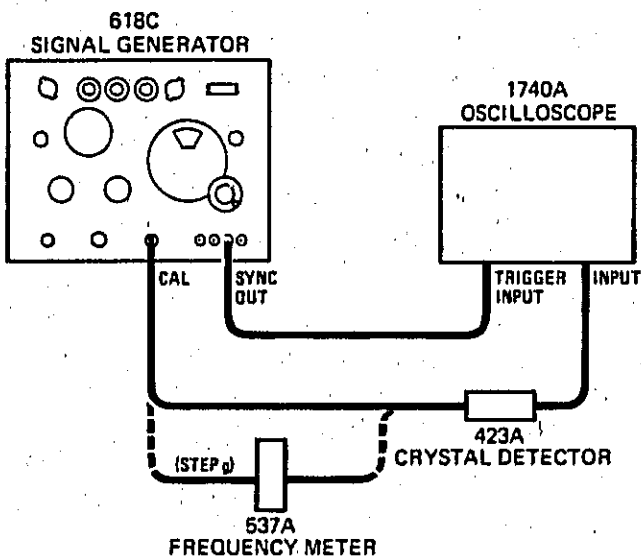
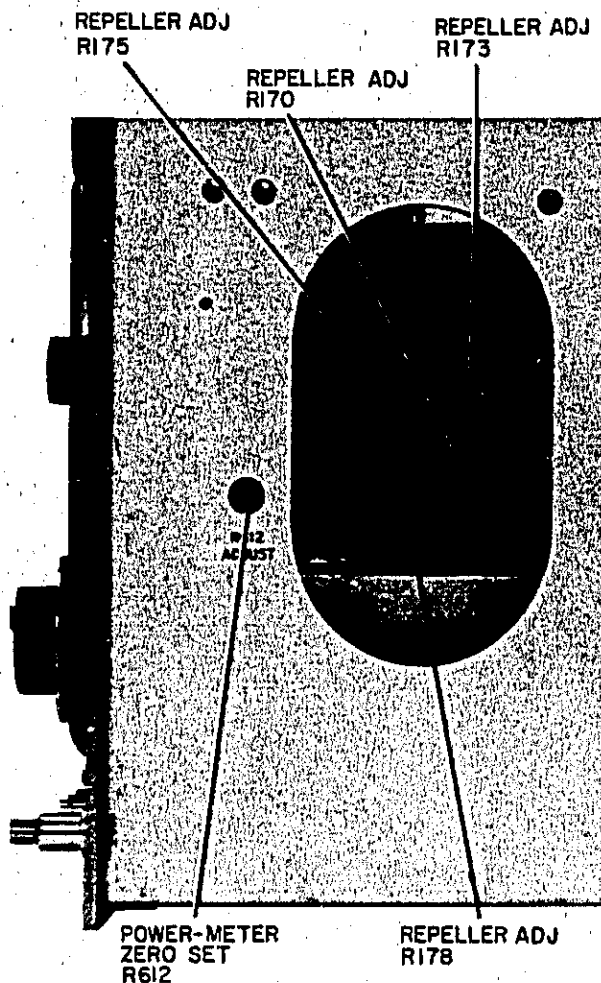
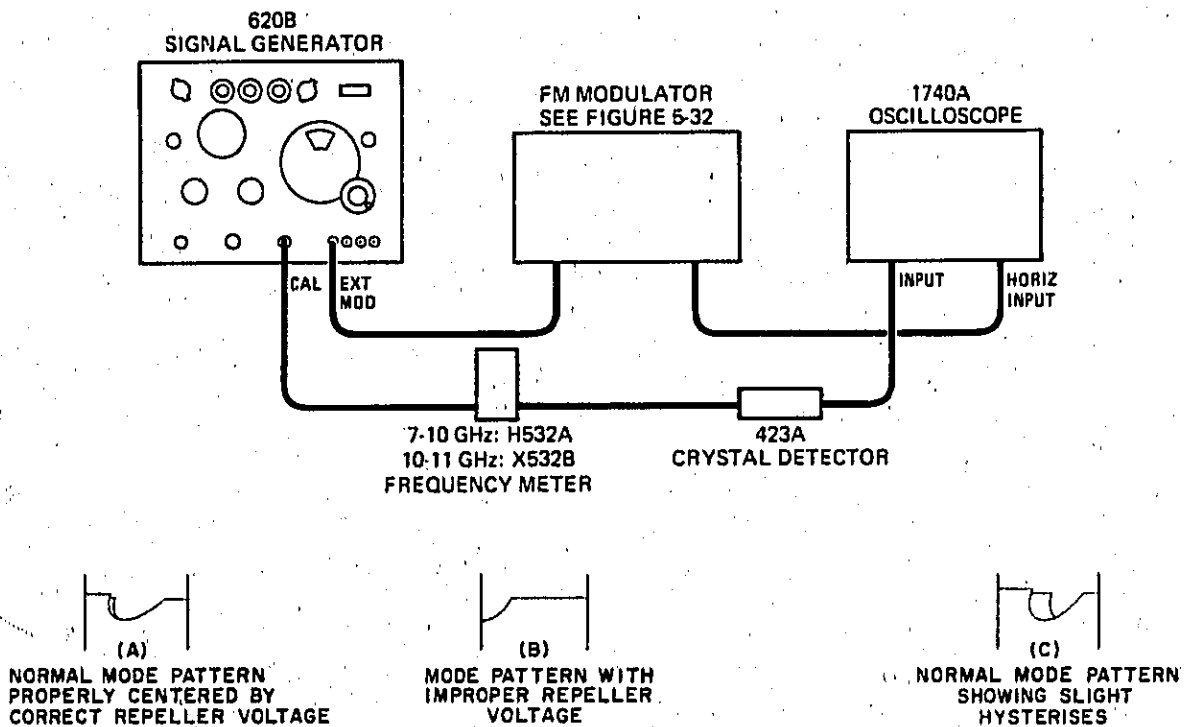
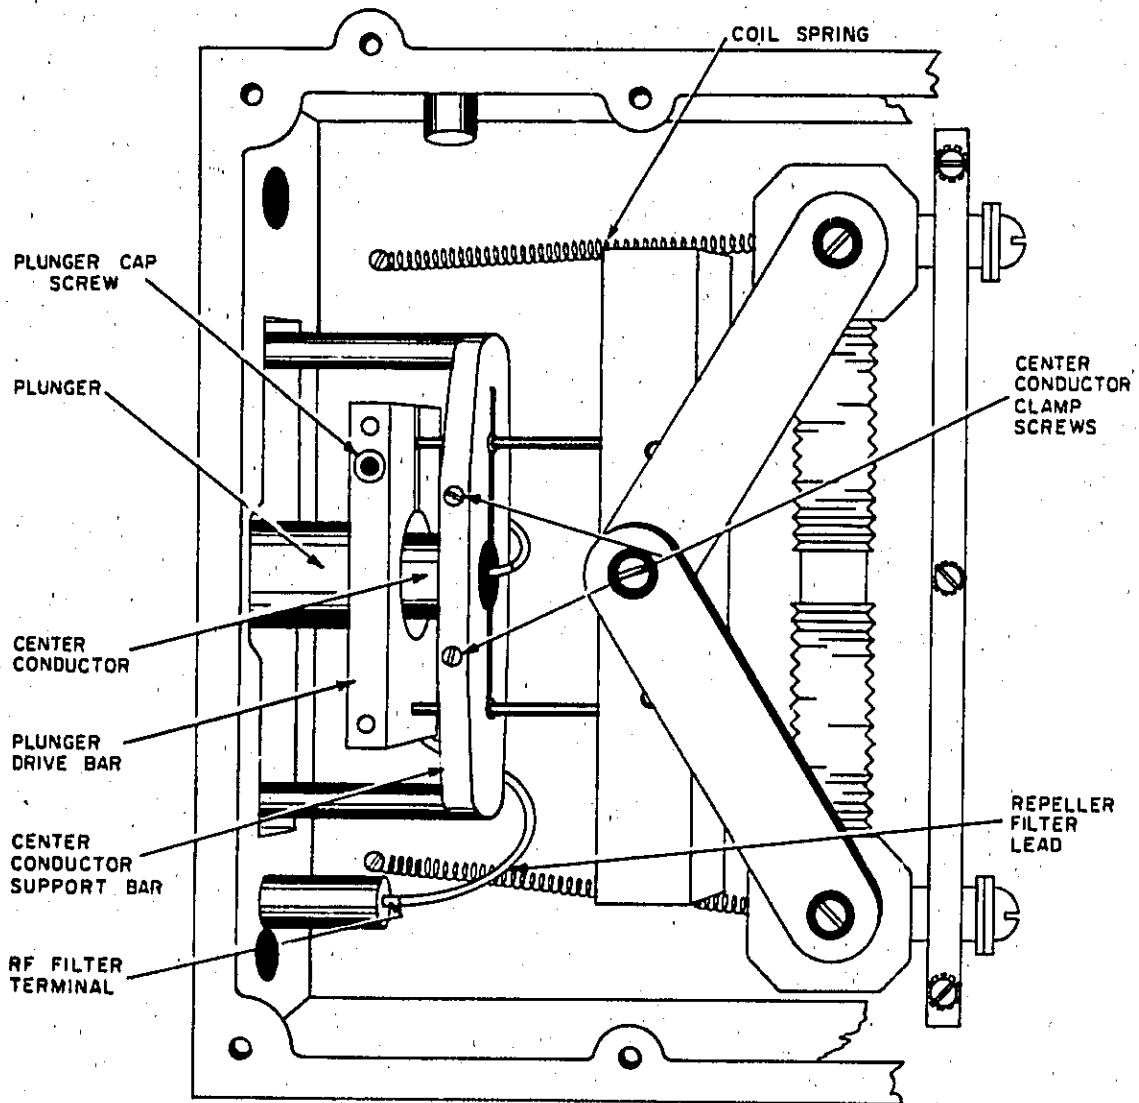

Figure 5-9. Setup for Frequency Dial Calibration (618C)
Figure 5-11. Location of Tracking and Power-Set Meter Adjustments
Figure 5-12. Test Setup for Klystron Adjustment (620B)
Figure 5-13. Frequency Drive Mechanism, Cover Plate Removed (620B)
- d. Connect instrument as shown in Figure 5-9.
g. At this point it is advisable to check the dial calibration at the high end stop. This check avoids possible retracking adjustments when the dial calibration is adjusted later. To conduct the check, tune frequency control to high end stop and place wavemeter in circuit as shown in Figure 5-9. Wavemeter should indicate 7.650 GHz. When the wavemeter is tuned to the actual frequency of the generator a slight decrease in the peak level of the pulse appears on the scale. If this frequency is more than 25 MHz away from 7.650 GHz perform step d in paragraph 5-34.
h. Remove wavemeter and reconnect output cable as shown in Figure 5-9. Tune the frequency control toward 5 GHz, adjusting R170 (Figure 5-11) for best pulse shape between 7.6 and 5 GHz.
i. Tune the frequency control between 5 and 4.2 GHz; adjust R173 and/or R178 (Figure 5-11) for optimum pulse shape.
e. Adjust POWER SET control to obtain up-scale indication on the power set meter. If necessary, adjust potentiometer R170 (Figure 5-11) to obtain proper meter indication. Recheck klystron beam current (25 mA maximum).
g. Connect Signal Generator in test setup shown in Figure 5-12.
h. Set MOD. SELECTOR to EXT FM and observe repeller mode pattern on Oscilloscope. Adjust OUTPUT ATTN and external modulating voltage to obtain the desired vertical deflection on Oscilloscope. Adjust FM AMPLITUDE control to obtain humped waveform shown in Figure 5-12. If necessary adjust the phase of repeller mode pattern.
- (1) Turn off Instrument.
- (2) Loosen klystron mounting nut.
- (3) Rotate klystron slightly and make sure klystron is seated properly against shoulder in collet.
- (4) Tighten klystron mounting nut by hand.
- (5) Check to be sure that the repeller cable is not twisted and makes firm connection to repeller.
- (6) Turn on Instrument and observe repeller mode patterns on oscilloscope.
n. Measure Signal Generator output frequency with Frequency Meter. If the measured frequency is below 11.1 GHz, remove bottom plate from frequency drive mechanism and perform (1) through (4) following; if not, perform (5) through (9) following:
- (1) Loosen plunger cap screw (Figure 5-13).
- (2) Adjust Frequency Meter to 11.1 GHz.
- (3) Gently tap rear of plunger until Frequency Meter dip is centered on mode pattern.
- (4) Tighten plunger cap screw and replace bottom plate.
- (5) Set Frequency Meter to 11.1 GHz.
- (6) Adjust frequency dial until Frequency Meter pattern is centered on the mode pattern.
- (7) Loosen plunger cap screw.
- (8) Turn frequency dial to high frequency stop while holding plunger stationary.
- (9) Tighten plunger cap screw and replace bottom plate.
p. Tune Signal Generator across entire band and center repeller mode pattern with repeller tracking potentiometer R170, R173, R175, and R178 (Figure 5-9). Figure 5-12 (A and C) shows two typical mode patterns. Figure 5-12A shows a symmetrical mode pattern that is properly centered by the correct repeller voltage; Figure 5-12B shows the same pattern set off-center by incorrect setting of repeller voltage. Adjust potentiometer R170 and R178 (Figure 5-11) to obtain correct repeller voltage tracking between 11 GHz and the frequency just above the point where the microswitch is actuated (approximately 8.7 to 9 GHz). Adjust potentiometers R173 and R175 (Figure 5-11) to obtain correct repeller voltage tracking between the frequency just below the point where the microswitch is actuated (approximately 8.6 GHz) and 7 GHz.
h. Refer to Figure 5-13 and loosen the cap screw holding the plunger in the plunger-drive bar.
a. Remove instrument cover for access to R612 (see Figure 5-11).
c. Adjust POWER SET until meter pointer is about 3/8 inch to the right of zero (0).